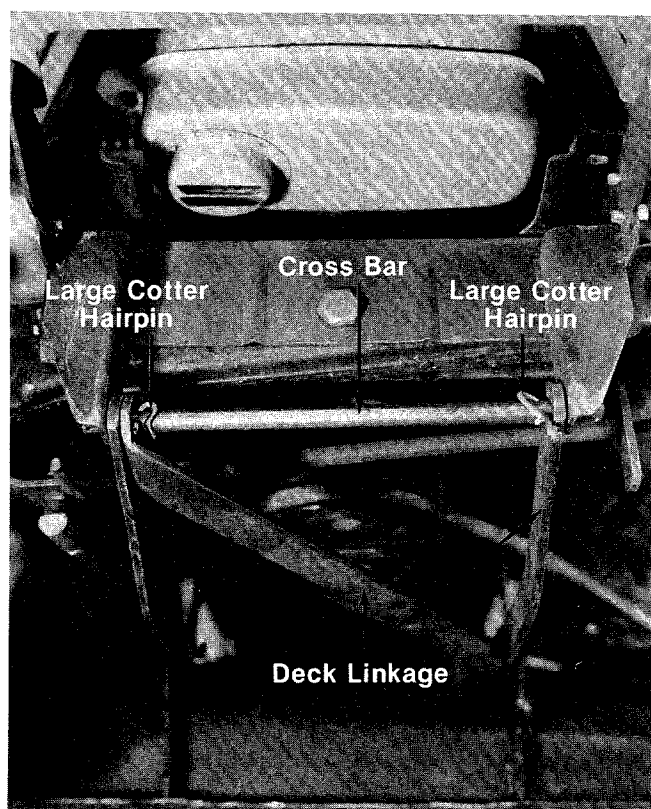

FIGURE 7.
- Assemble the front cross bar as shown in figure 7 using two large cotter hairpins to attach the deck linkage to the tractor frame.